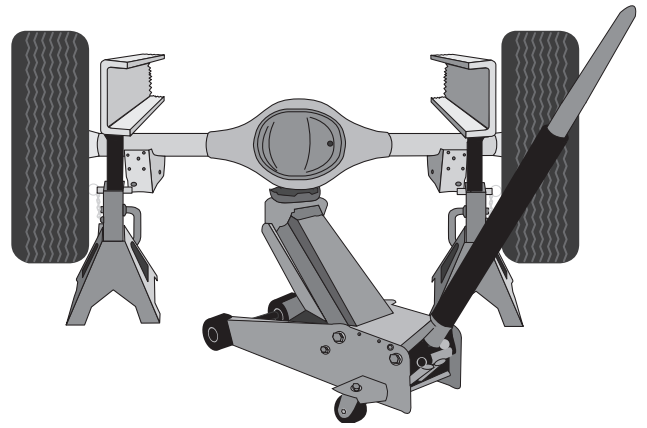

Fig. 2
1. Jack up the rear of the vehicle or raise on a hoist. Support the frame with safety stands (Fig. 2). Lower the axle or raise the body of the vehicle until the springs are completely extended.